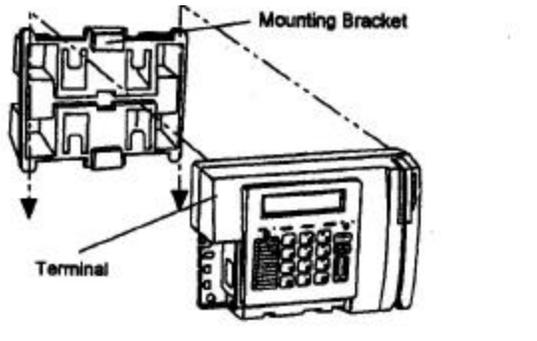

Figure 11: Terminal and Mounting Bracket Attachment
3. Attach the terminal to the mounting bracket. Refer to Figure 11.